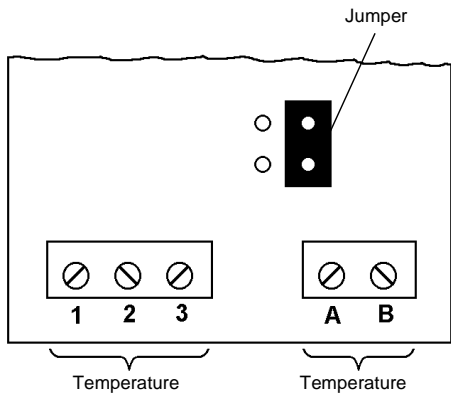

Fig.2
- If a 0 to 5Vdc output is required, set the jumper to the correct position - see Fig.2 and Fig.4.